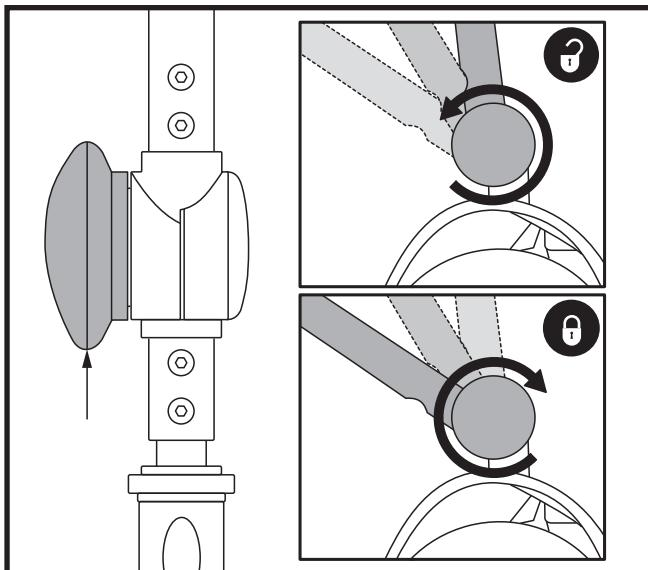

Figure 13. Tiller Adjustment Knob
## TILLER ANGLE ADJUSTMENT (See figure 13)
- With the seat and battery pack removed (see Disassembly Procedures on previous page), lower the tiller and tighten the tiller adjustment knob. **See figure 13.**
- Raise the tiller and fully tighten the tiller adjustment knob. **See figure 13.**